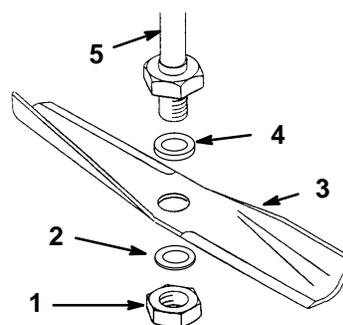

Figure 21
3. Remove the nut, flat washer, blade, and washer (Fig. 21). A block of wood may be wedged between the blade and the mower to lock the blade when you are removing the bolt.